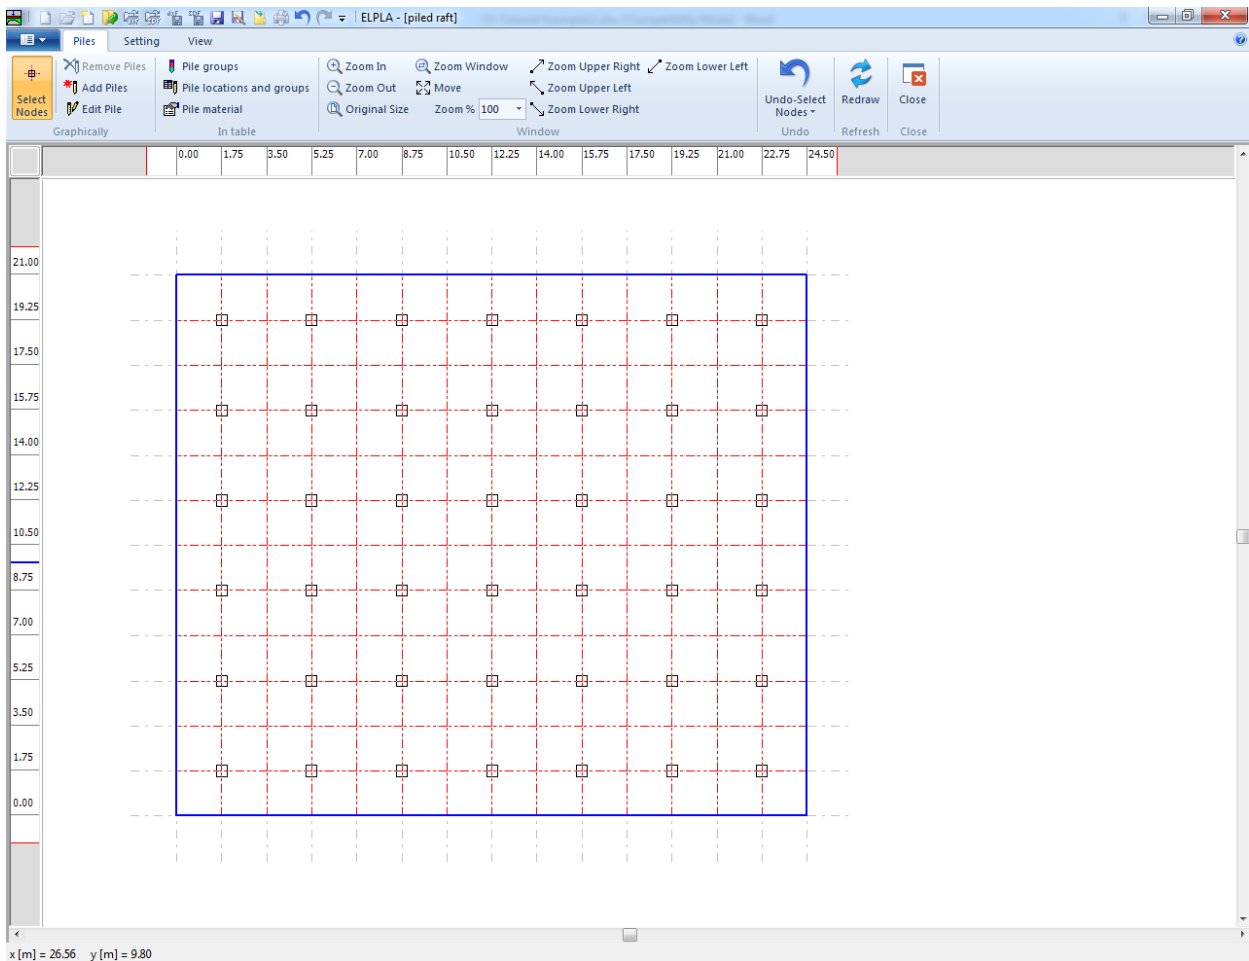
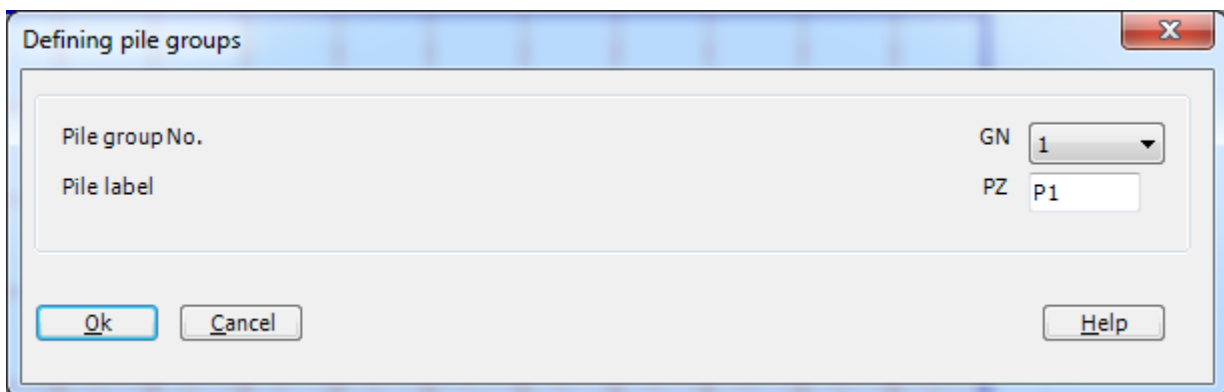

Figure 12.16 Selection of nodes that have piles
Figure 12.17 "Defining pile groups" dialog box
- Select nodes those have piles as shown in Figure 12.16
- Choose "Add Piles" command from "Piles" Tab in Figure 12.16. The "Defining pilegroups" dialog box in Figure 12.17 appears. In this dialog box click "OK" button